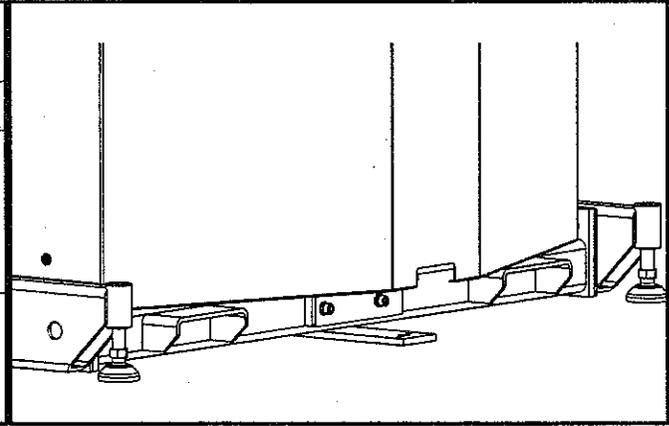

Figure 8 – Fork Pockets
5. Next, adjust the fork spacing on the forklift to 24 in. (610 mm) between the forks. This fork spacing is required to properly engage the fork pockets, as shown in Figure 8. The lifter is designed to accommodate 5.50 – 6.00 in. (140 – 152 mm) wide forks at this fork spacing. Insert the fork tips completely into the fork pockets on the rear of the lifter. Slowly lift the rear of the unit until there is approximately 3.00 in. (76 mm) of clearance between the rear leveling feet and the pallet surface. At this time, with the rear of the unit elevated, adjust each leveler downward 0.50 in. (13 mm). This corresponds to 5 (five) complete revolutions.